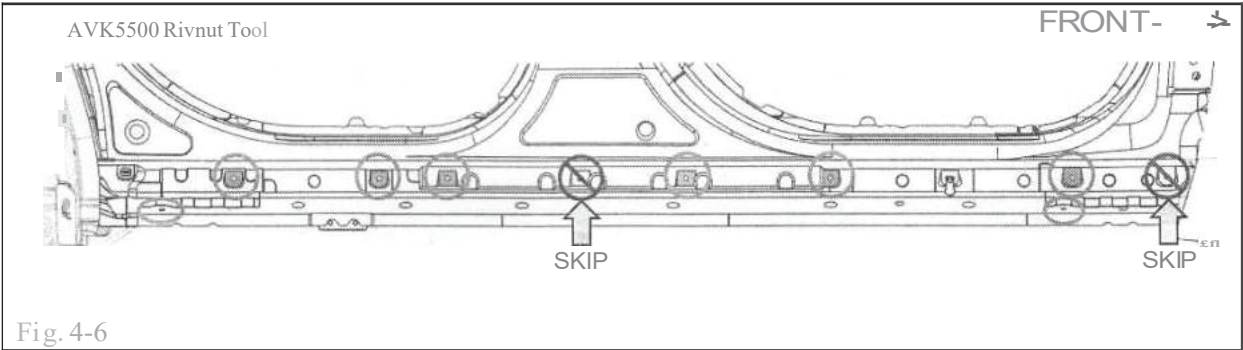

Fig. 4-6
(i) Using the rivnut tool, install eight (8) M6 rivnuts **CD** (six at the side, two at the bottom) into the vehicle rocker bores, as indicated in Fig. 4-6.